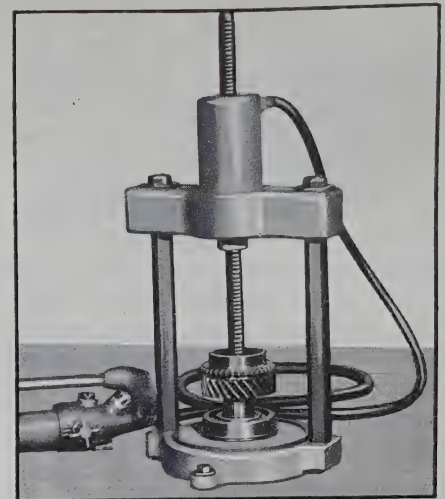

Figure 4-141—Installing Main Drive Gear Bearing
2. Using heavy grease to retain the rollers, install 20 rollers in either end of the countergear, two .050" spacers, 20 more rollers, then one .050" spacer. Install in the other end of the countergear, 20 rollers, two .050" spacers, 20 more rollers, and another .050" spacer. (See Figure 4-141).
3. Press bearing onto main drive gear (snap ring groove to front), using J-5746 (Figure 4-141). Be sure bearing fully seats against shoulder on gear.